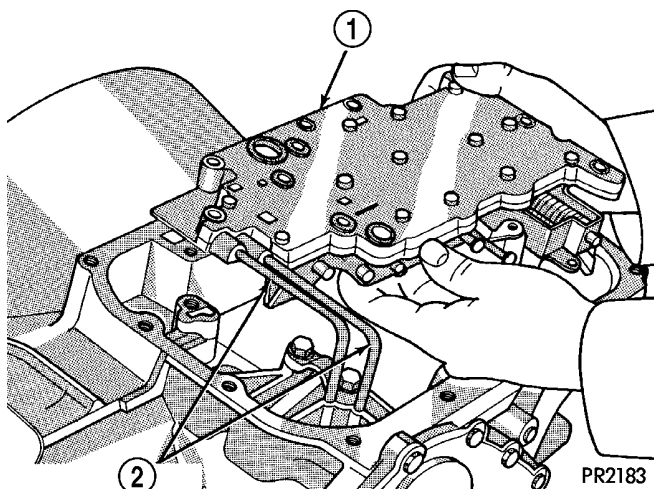

Fig. 10 Valve Body and Governor Tubes
- 2 - VALVE BODY ATTACHING BOLTS (7)
(11) Remove valve body from transaxle (Fig. 10). Note orientation and location of governor tubes.